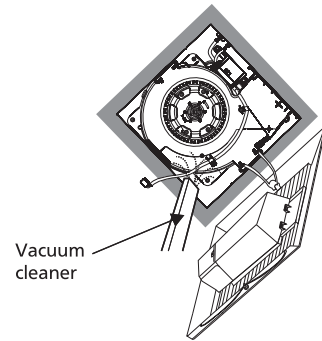

Fig.17
3. Remove dust and dirt from fan body using a vacuum cleaner. (Fig.17)